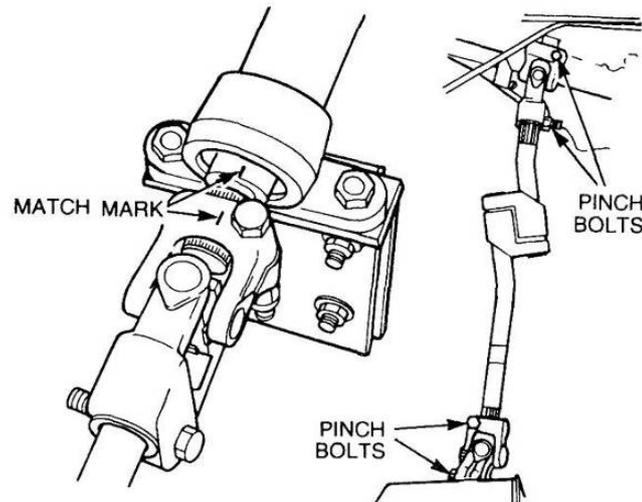

Figure 131 Alignment of the Steering Column
- Ensure the front wheels and the steering wheel are in the straight ahead position. Match mark the relationship of the steering column inner shaft to the top universal joint (Figure 131).